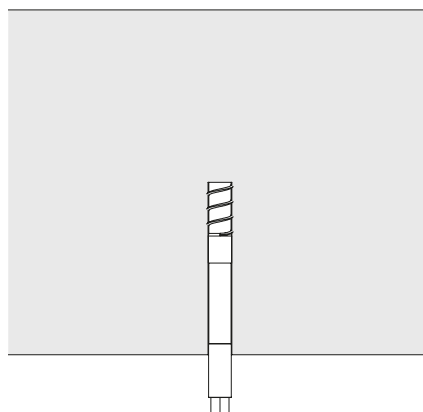

Fig. A5.18
1. Inject Composite Mortar CF-T 300 V (50).
2. Screw Connection Bolt M16/ M24x50 (51) and ITH-Sleeve TSM BC 22x75 mm IM16 (52) together tightly.
3. Screw the unit into the drilled hole with an impact wrench (nominal torque 600 Nm). (Fig. A5.18)
7. Fit Suspension Head VGK with Hex-Nut ISO 7040-M24-8-ga (24).